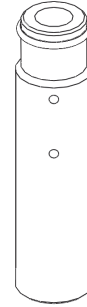

Fig. 5
1. Remove the restrictor tube (Fig. 5) from the mix inlet holes and lay in the bottom of the mix pans.